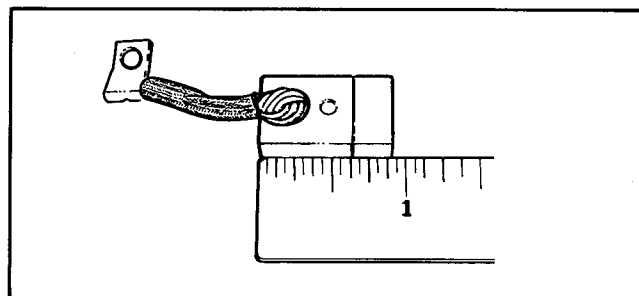

Figure 10-12 – Measuring Brush Length
- b. Check brush length, Figure 10-12. If any brush is worn to its minimum length when measured at its shortest point, new brushes are needed. Replace brushes in sets of four only.